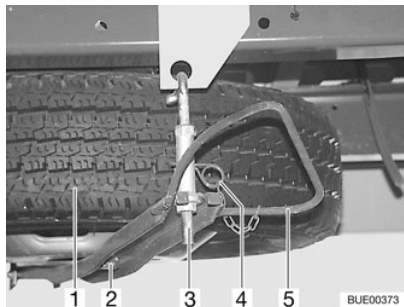

Fig. 103 Spare wheel support (Iveco)
- Pull out splint (Fig. 103,4).
- Press the clip (Fig. 103,5) against the spare wheel and unhook the holder (Fig. 103,3).
- Undo nut (Fig. 103,2) and remove the spare wheel (Fig. 103,1).